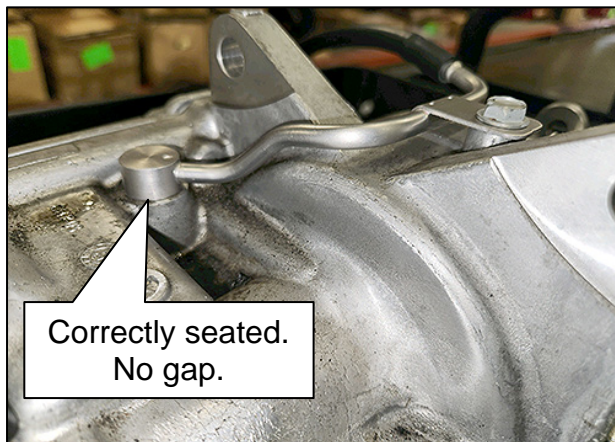

Figure 5
- The Breather is seated correctly into the Final Drive (Figure 5).